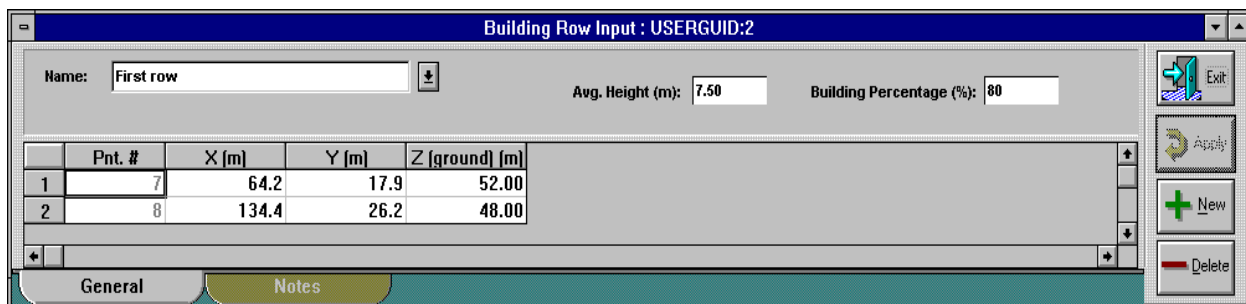

Figure 41. Building-row input: General tab.
2. Select  on the building-row input dialog (see Figure 41).